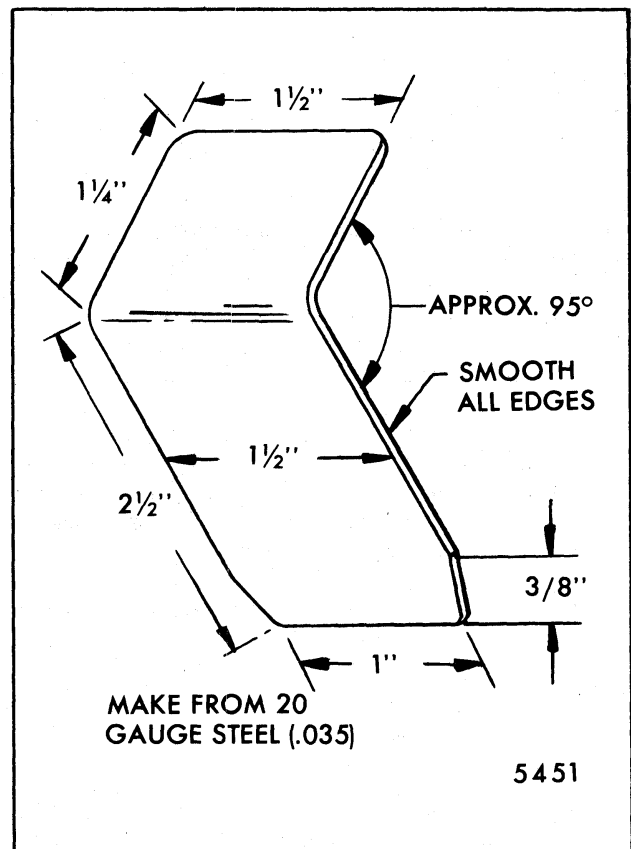

Fig. 9-55-Head Restraint Anti-Removal Lock Releasing Tool
NOTE: A head restraint lock releasing tool, shown in Figure 9-55, can be made from 20 gauge (.035) steel stock. The edge of this tool will release the spring lock tab on "B, C, E and D" body styles; the flat surface will release the spring lock tab on "A and X" body styles.
3. Insert lock release tool (Fig. 9-55) or suitable flat piece of metal $1-9/16$ inches wide down front surface of head restraint post approximately $2-1/2$ inches; then lift head restraint out of guide tube.